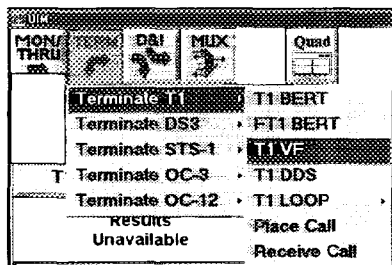

**Figure 3-10. Simulation of DS0 (VF) Drop/Monitor Test Setup**
Figure 3-10 depicts a diagram sample depiction of cable connections from the DSX-1 panel to the inputs on the T-BERD 2310 for a DS0 (VF) Drop/Monitor test.